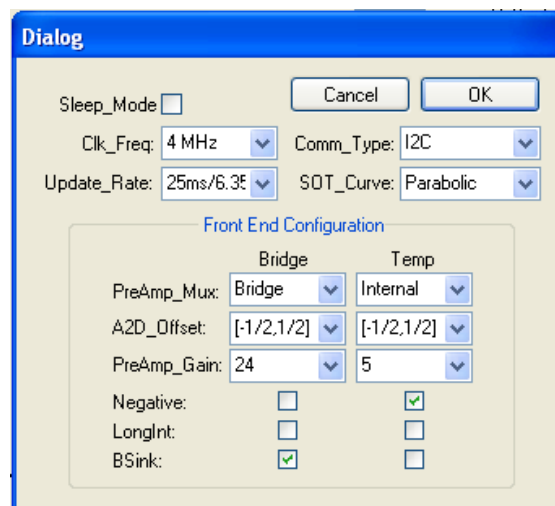

Figure 5.2 – Initialization Dialog Window with Default Values (Calibration with Artificial Bridge)
- 8.) Click on the "Initialize" button, and click "OK" to keep the default settings for the dialog box (Figure 5.2). A unique identifier is assigned to this RBic_iLite™ and is written to its EEPROM